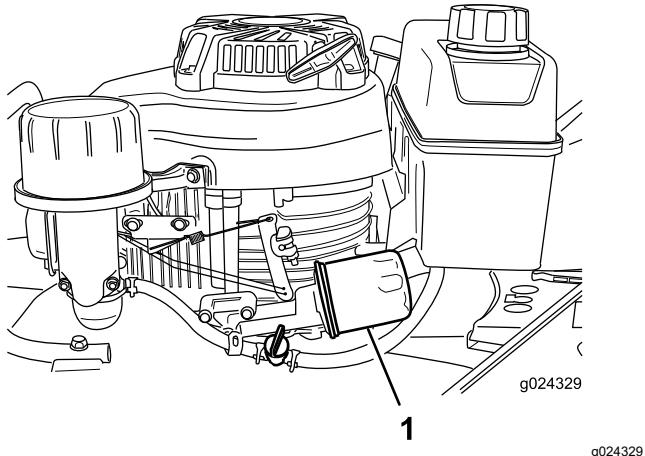

Figure 22
- Place a rag under the oil filter (Figure 22) to catch any oil that may leak out as you remove the oil filter.